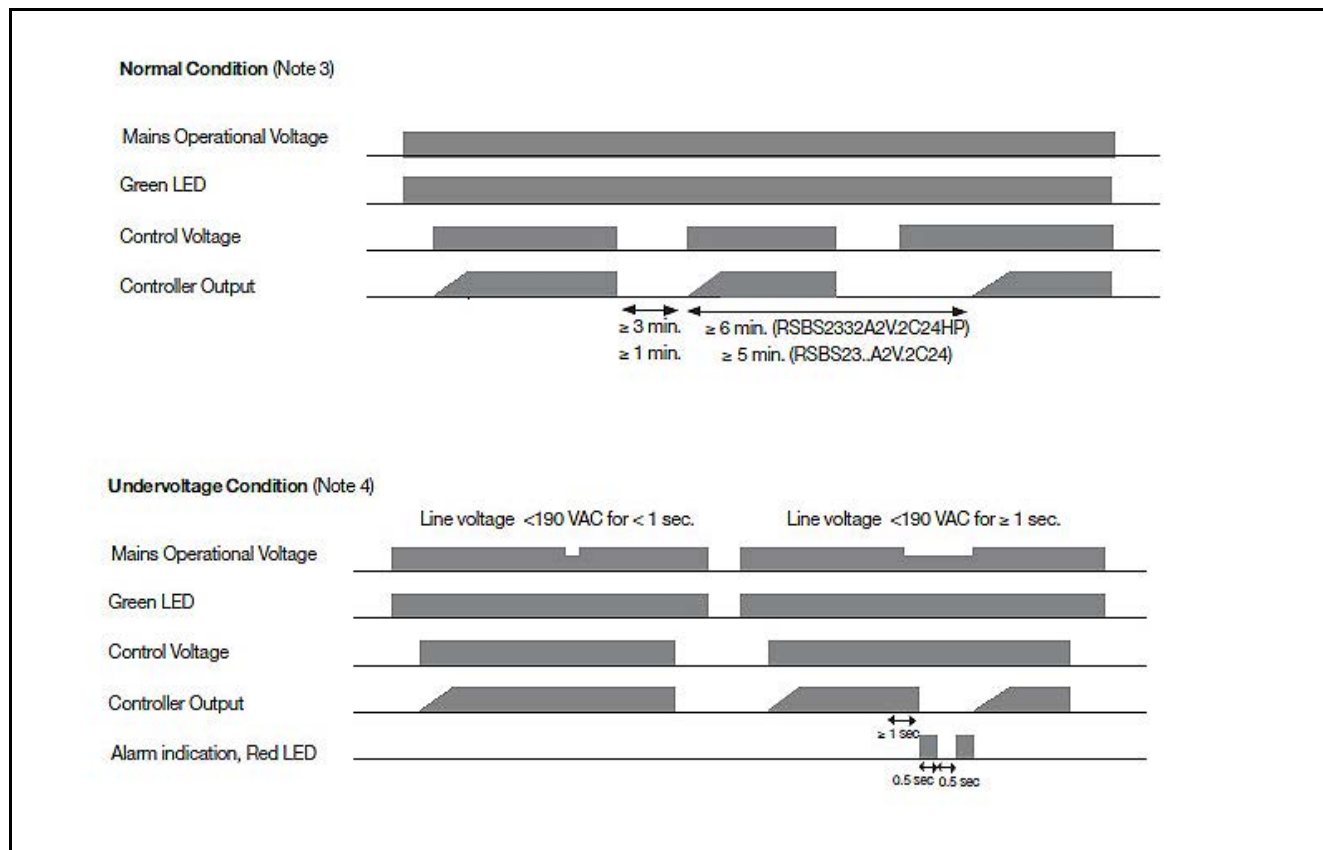

Fig. 67 Smart Start Assist Modes of Operations (Normal and Undervoltage Condition)
8. During the recovery from under-voltage, overcurrent, and incomplete ramp alarms, the red LED will flash twice the normal flashing frequency using the same number of flashes. Fig. 67 shows the flashing in case of a recovery from an undervoltage alarm.